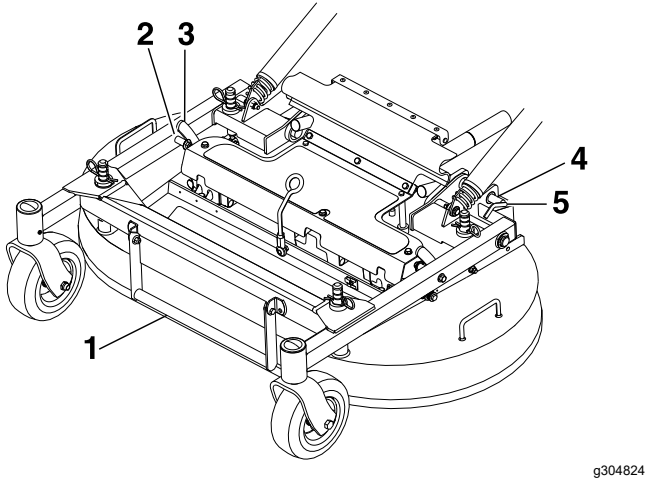

Figure 8
3. Release the mower deck locking pins on each side (Figure 8).